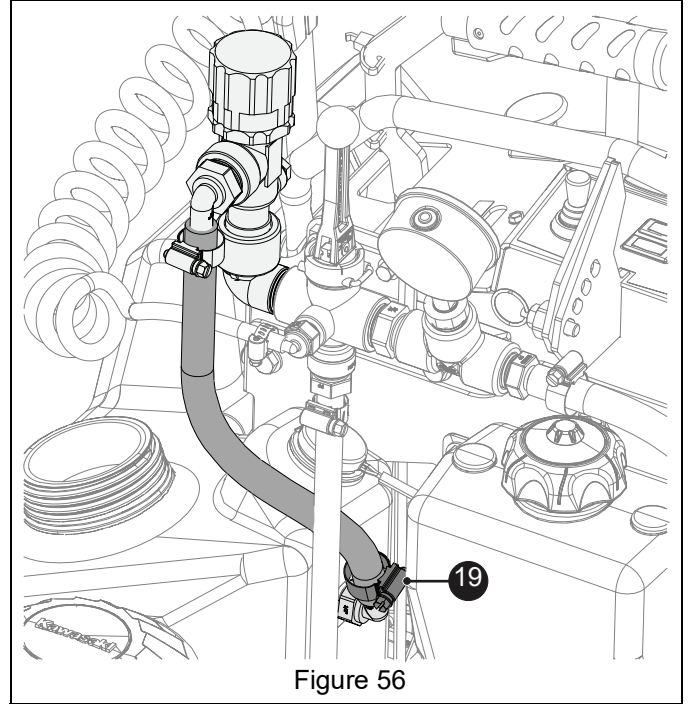

Figure 56
80. Install one #8 hose clamp (item 19) on return hose from back of pressure regulator and connect to rear brine tank fitting. Tighten hose clamp. See Figure 56.